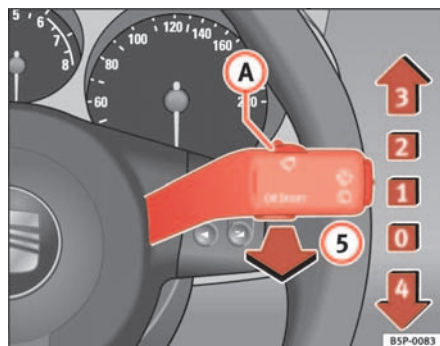

Fig. 85 Windscreen wiper and windscreen wash lever
The windscreen wiper lever ⇒ fig. 85 has the following positions:
- The next speed down will automatically be selected if speed ⇒ page 120, fig. 85 ② or ③ is selected when the vehicle stops. The set speed will be resumed when the vehicle starts again